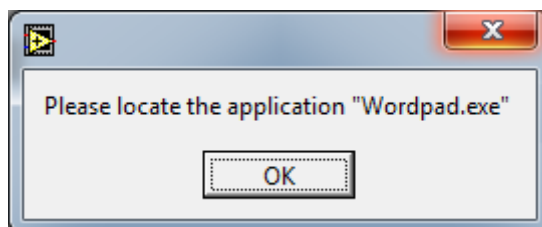

Figure 39 When this message box is displayed click OK and locate the WordPad application.
3. Click OK when the message box shown in figure 39 appears.